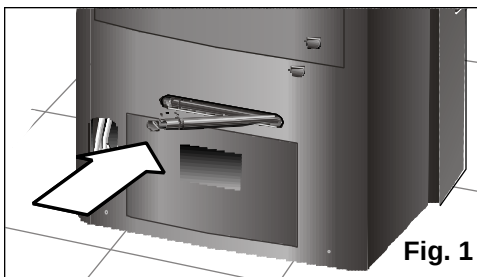

Fig. 1
- ☐ Make sure that the drainage plug is fully inserted. It may have come loose during transportation, **Fig. 1**.